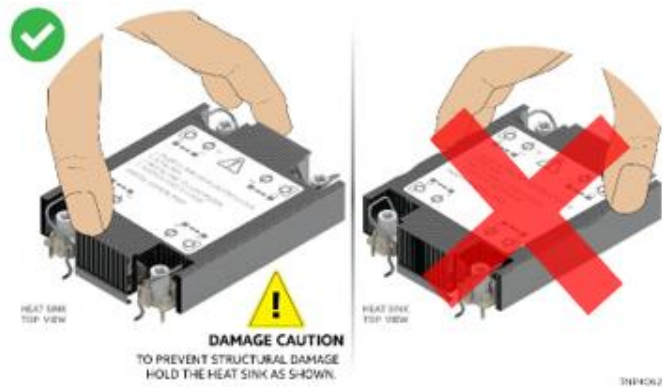

Figure 102. Processor Heat Sink Handling
13. Locate the processor heat sink. To avoid damage, grasp it by its narrower sides as shown in Figure 102.